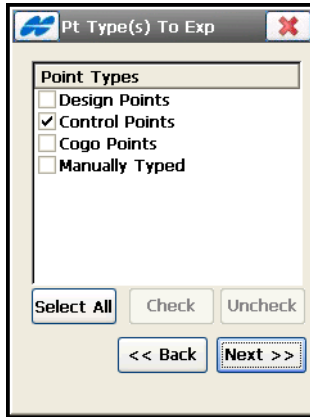

Figure 4-43. Points Types To Export
- *Select Additional Point Types* – check mark this box to select additional point types to export: Design, Control, COGO and/or Manually entered points (Figure 4-43 on page 4-39).
**On the Points Types To Export** screen, you can additionally select point types (*Design, Control, Cogo, Manually Typed*) to store during export of raw data (Figure 4-43 on page 4-39).
- *Select Additional Point Types* – check mark this box to select additional point types to export (Figure 4-43 on page 4-39).